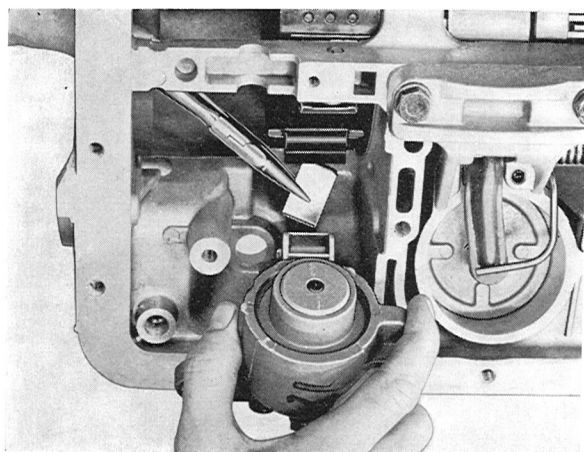

Fig. 4-113. Front servo and strut installation
10. Place the front brake band in position, see Fig. 4-113. Stick the strut to the piston lever with vaseline.